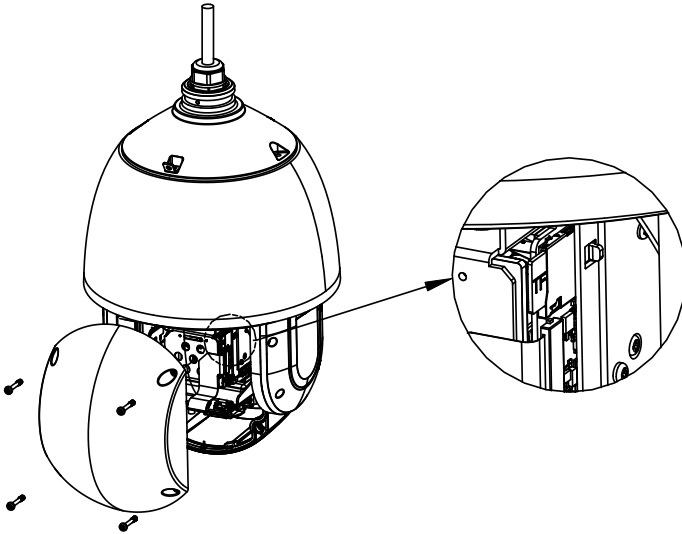

Figure 2-35 Memory Card Slot
- Refer to Figure 2-35 for the memory card slot of DE7Sxxx series speed dome.